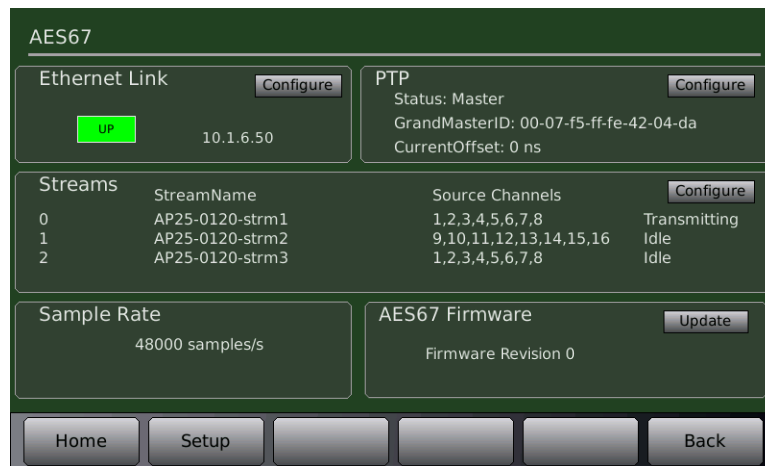

Figure 2 – AES67 Setup Screen
Figure 2 below shows the main AES67 setup and information screen.
- PTP status. The example screen in **Figure 2** shows that this device is currently the Master.